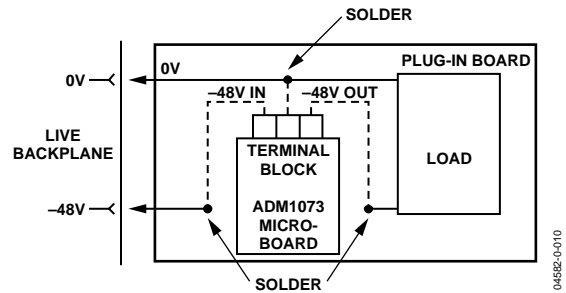

Figure 10. Integrating the Micro Evaluation Board into the System
2. To integrate the micro evaluation board into your system in place of the original hot swap circuitry, clamp three wires into the terminal block, J1, of the micro evaluation board and solder them into position on the board. If you need to access the logic I/Os, there are blank pads on the board that can be used for this purpose. The micro evaluation board now substitutes for the old hot swap circuitry, as shown in Figure 10.